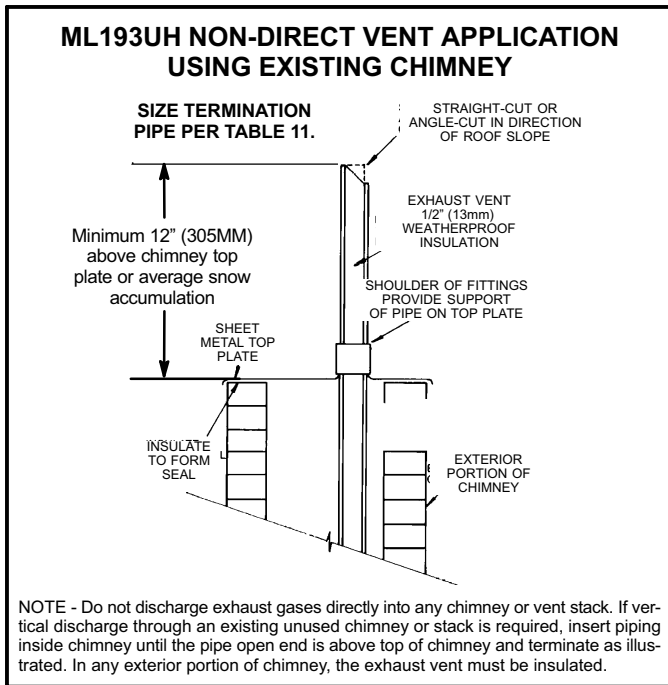

**FIGURE 42**
2. On field supplied terminations for side wall exit, exhaust piping may extend a maximum of 12 inches (305mm) for 2" PVC and 20 inches (508mm) for 3" (76mm) PVC beyond the outside wall. See figure 42.